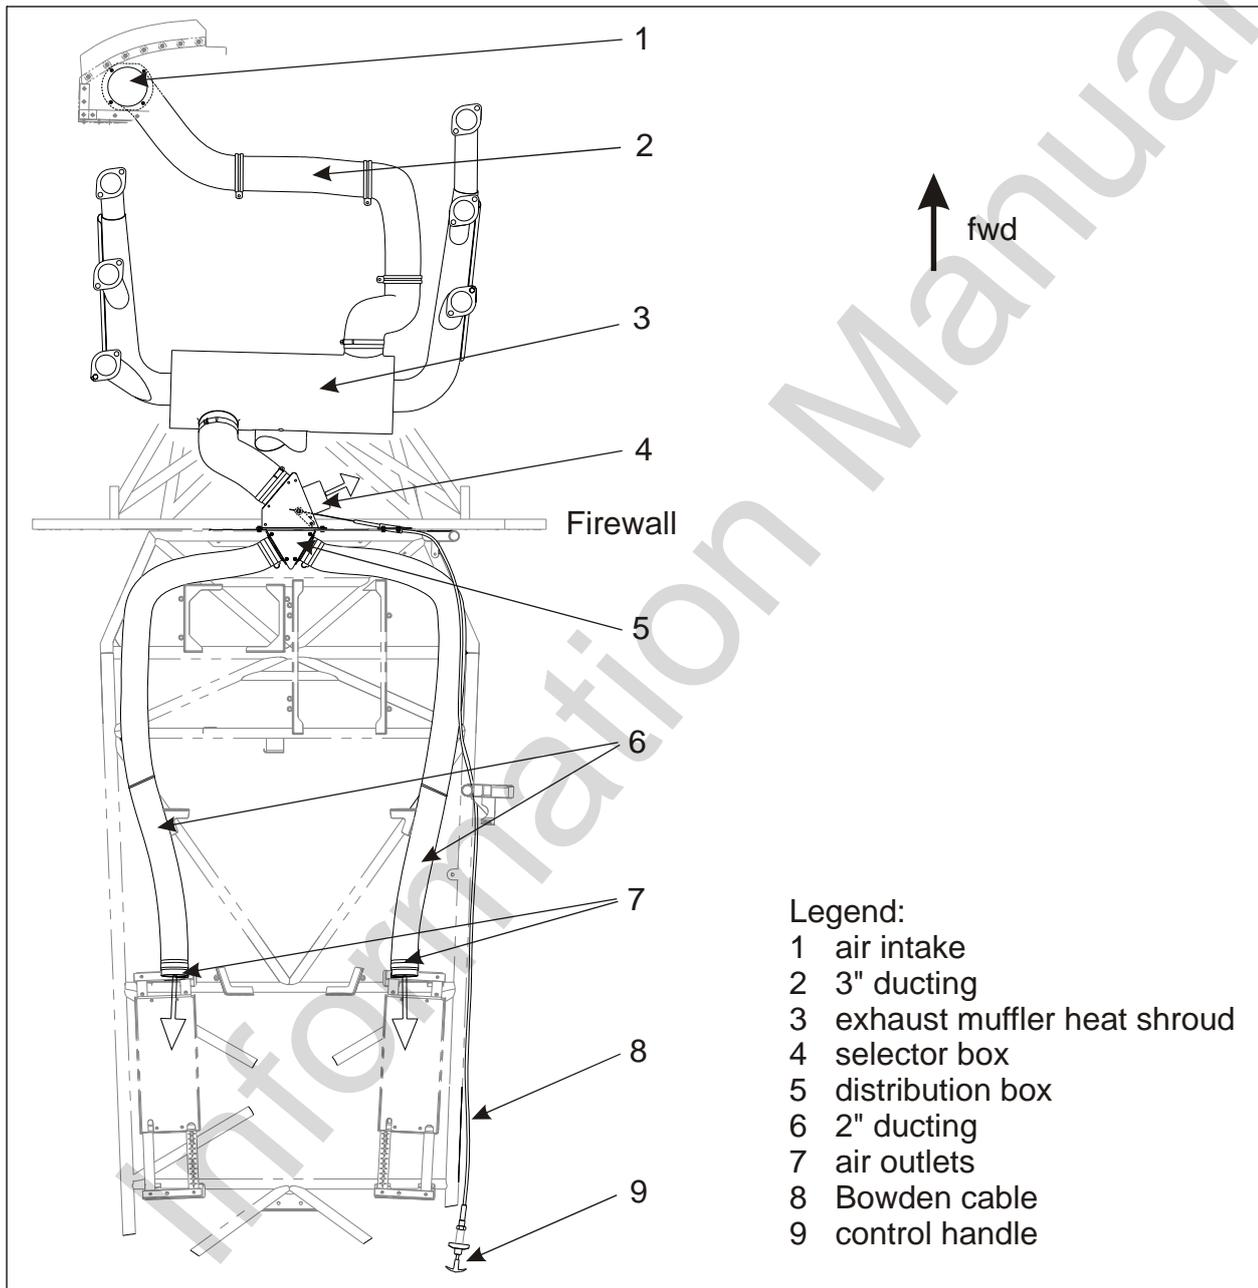

Figure 1
On the left front engine baffle a 3" air intake (1, figure 1) with screen is positioned. From there fresh air is routed through a 3" ducting (2) to the exhaust muffler heat shroud (3), where it is heated up. A selector box (4) is placed on the engine side of the firewall. Using the main handle (9) the warm air can there be guided into the cockpit or dumped overboard. A distribution box (5) is located on the aft side of the firewall. The distribution box incorporates the flanges for the 2" ducting (6) to the air outlets (7) at the pilot's feet.